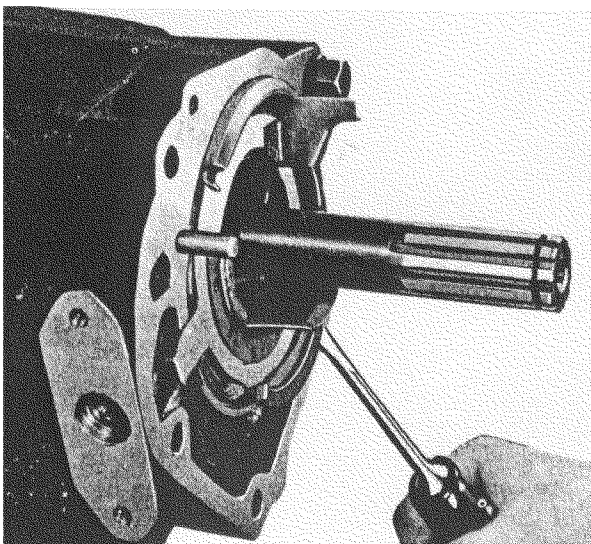
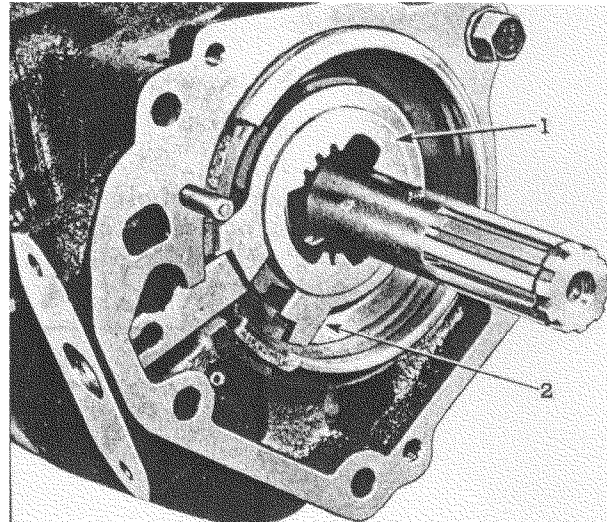

Fig. 37—Removing Control Plate Retainer Snap Ring
Fig. 38—Control Plate, Blocker Ring and Pawl Positions for Assembly
6. Remove large snap ring from adapter (fig. 37) and remove sun gear control plate retainer. Then slide control plate and blocker ring out of adapter (fig. 38). If control plate
toward rear. Slide the assembly into position with slot in ring toward sun gear pawl (fig. 38).